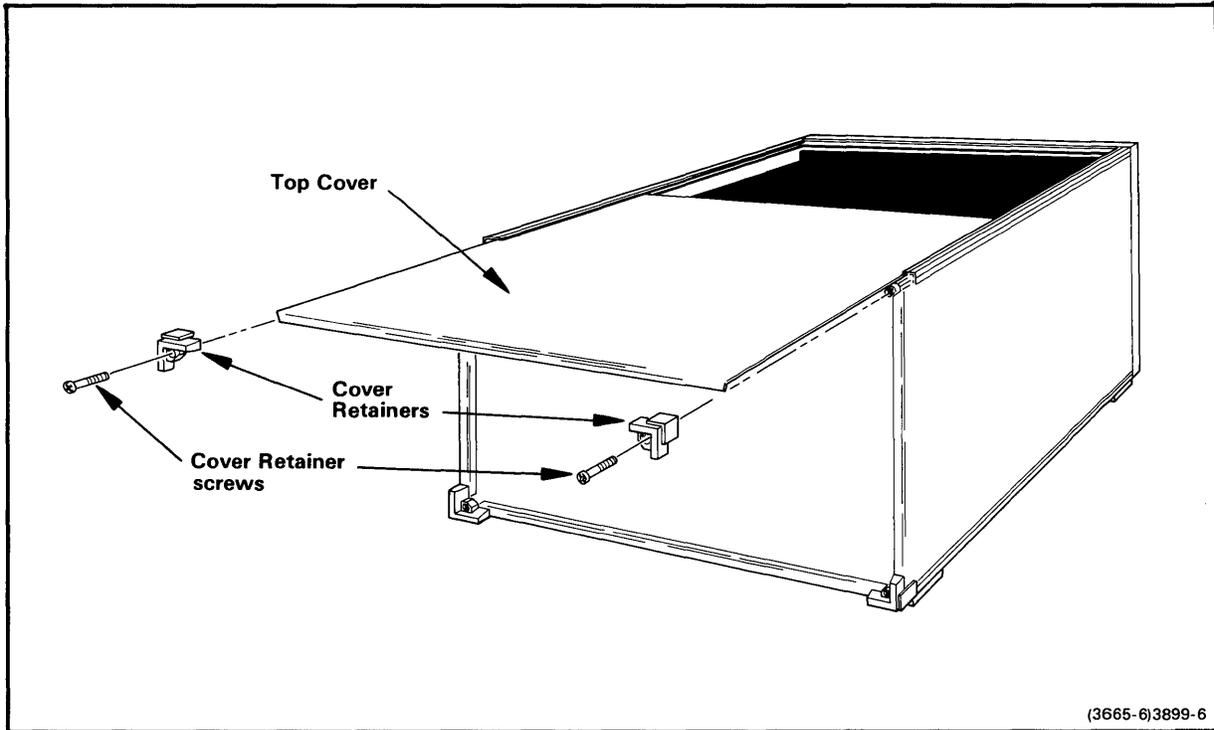

Fig. 2-4. Removing the 8560 MUSDU top cover.
1. Turn the 8560 around so that the rear panel is facing you. Remove the two upper cover retainers, as shown in Fig. 2-4. Slide the top cover back and off the 8560 cabinet.
1. Remove the two lower cover retainers (refer back to Fig. 2-4). Then remove both side panels.